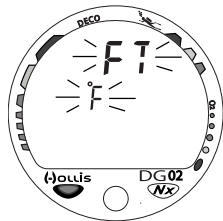

Fig. 22 - Set Units
- While the Surface Sequence is scrolling, or after having set FO2, depress the button until the Set Units screen appears with the Set Point flashing (Fig. 22), then release the button.